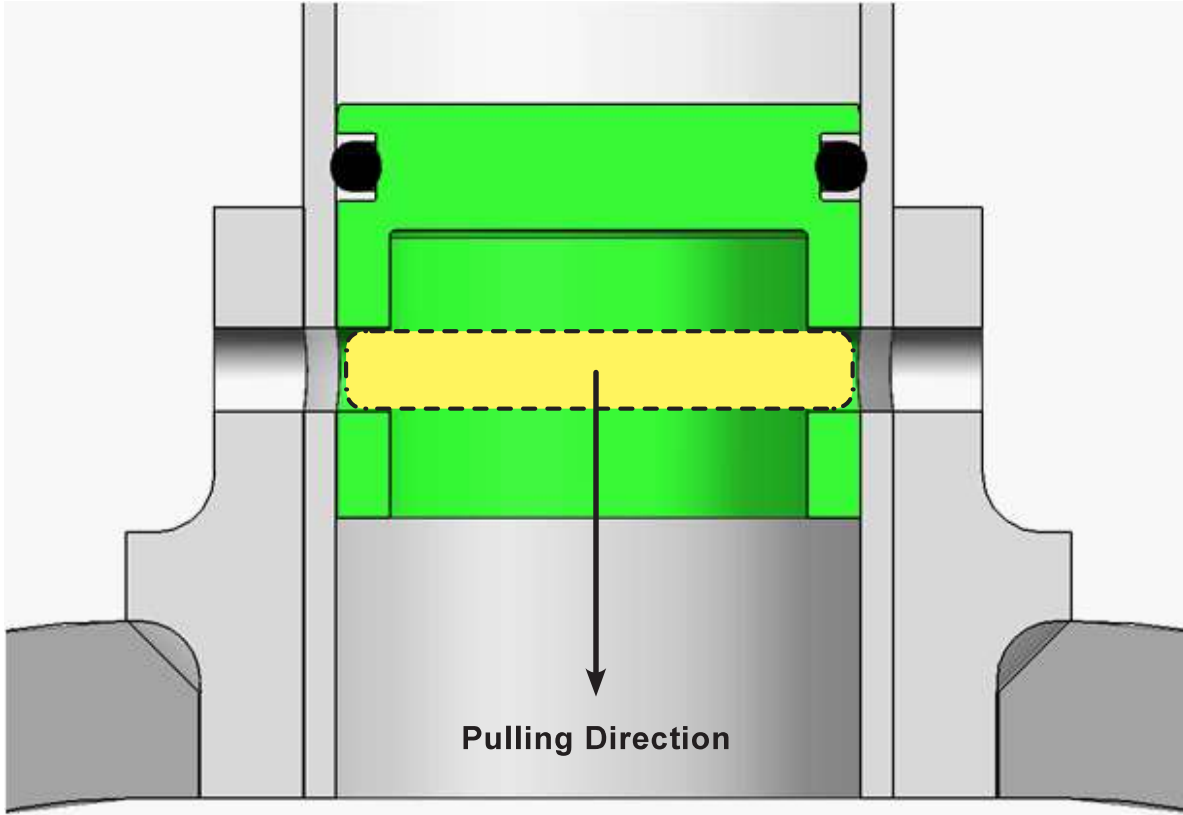

Figure 1-2 – Cross Section View Showing Pulling Pin in Place
5. Install the shop aid (supplied with this Service Bulletin kit) through the 3/8" capturing bolt hole, as shown in **Figure 1-2**.